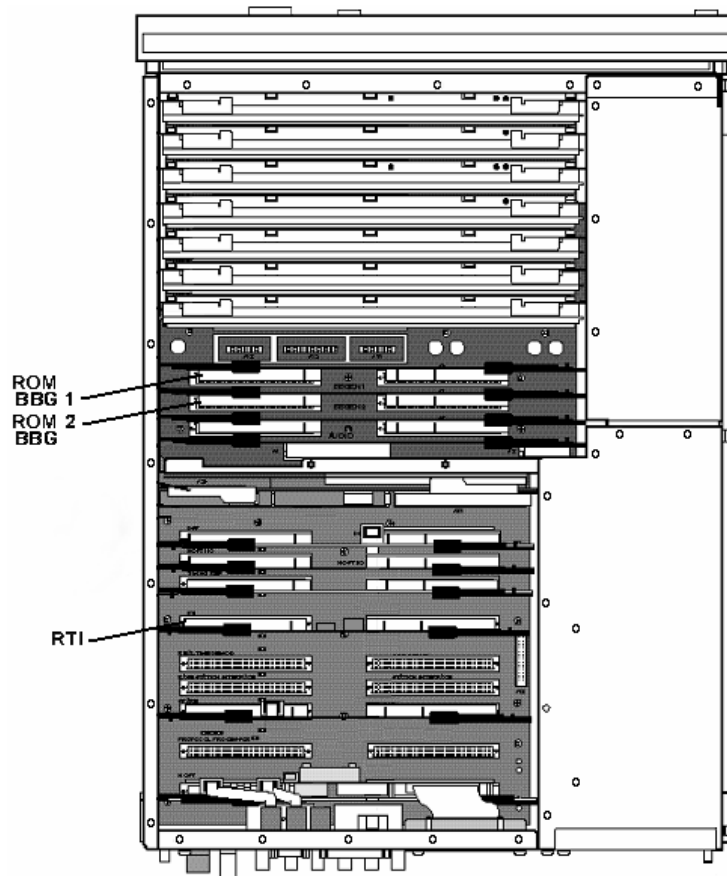

Figure 1 – Remove Modules
2. Use Figure 1 to locate modules. Remove ROM Baseband Generator #1 (ROM BBG 1) and ROM Baseband Generator #2 (ROM BBG 2). Remove Real Time Interface (RTI).
- Use Figure 1 (on previous page) to locate modules. Install new TDMA Baseband Generator #1 (TDMA BBG 1) and TDMA Baseband Generator #2 (TDMA BBG 2) from the kit. Install new Real Time Interface (RTI) from the kit.